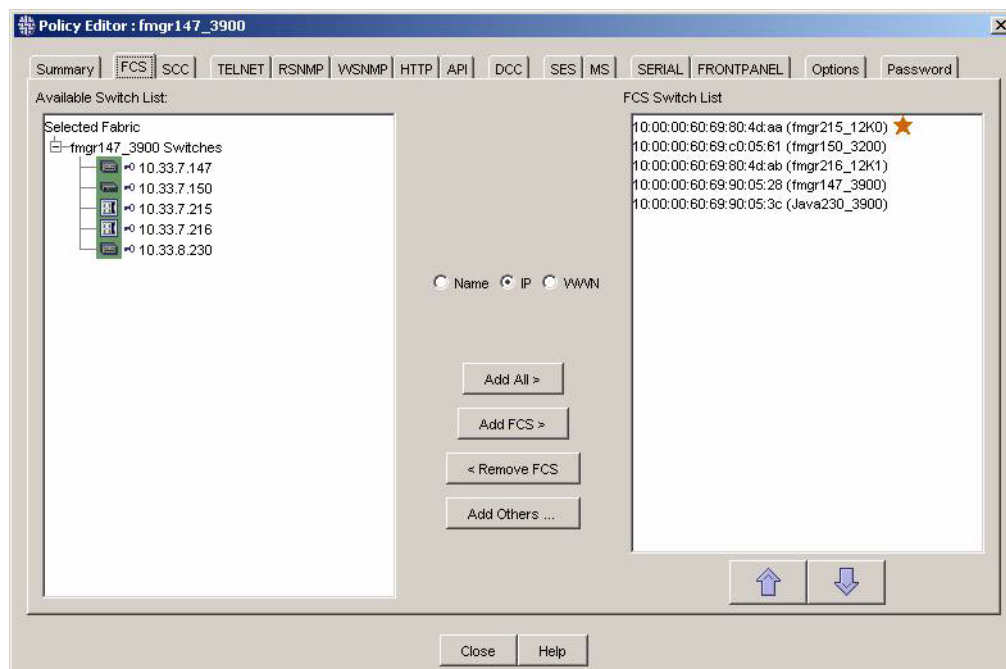

Figure 174 Configuring the FCS policy
Switches in your Fabric Configuration Server (FCS) policy serve as *trusted* switches. The first switch listed in the FCS switch list (see Figure 174) serves as the primary FCS (from which you can configure your fabric), and any subsequent switch serves as a backup FCS. The order in which switches appear in the FCS switch list represents a chain where each backup switch takes over as the primary FCS if the preceding primary FCS fails.
3. Click the **FCS** tab (see Figure 174).